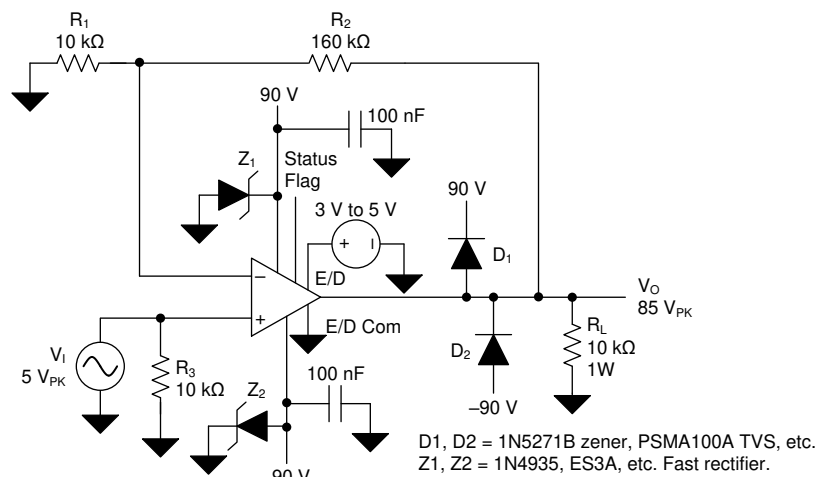

Figure 61. OPA462, High-Voltage Noninverting Amplifier, $A_v = 17$ V/V
The OPA462 high-voltage op amp can be used in commonly applied op amp circuits, but with the added capability of allowing for the use of much higher supply voltages. A very common application of an op amp is that of a noninverting amplifier with a gain of 1 V/V or higher. Figure 61 shows the OPA462 in a noninverting configuration.
Figure 61 shows a noninverting circuit with a moderately high closed-loop gain (A_V) of 17 V/V (24.6 dB). In this example, a $5\text{-}V_{PK}$ ac signal is amplified to $85\text{-}V_{PK}$ across a $10\text{-}k\Omega$ load resistor connected to the output. The peak current for this application is 8.5 mA, and is well within the OPA462 output current capability. Higher output current, typically up to 30 mA, may be attained at the expense of the output swing to the supply rails. A $\pm 90\text{-}V_{DC}$ power supply is required for this configuration.
A potentially destructive mechanism is the back EMF transient that can be generated when driving an inductive load. D_1 , D_2 , Z_1 and Z_2 in Figure 61 have been added to the basic OPA462 amplifier circuit to provide protection in the event of back EMF. If the voltage at the OPA462 output attempts to momentarily rise above V_+ , D_1 becomes forward-biased and clamps the voltage between the output and V_+ pins. This clamp must be sufficient to protect the OPA462 output transistor. If the event causes the V_+ voltage to increase the power supply bypass capacitor, Z_1 , or both, a Zener diode or a transient voltage suppressor (TVS) can provide a path for the transient current to ground. D_2 and Z_2 provide the same protection in the negative supply circuit.
The OPA462 noninverting amplifier circuit with a closed-loop gain of 17 V/V has a small-signal, -3-dB bandwidth of nearly 800 kHz. However, the large-signal bandwidth is likely of greater importance in a high-output-voltage application. For that mode of operation, the slew rate of the op amp and the peak output swing voltage must be considered in order to determine the maximum large-signal bandwidth. The slew rate (SR) of the OPA462 is typically $6.5\text{ V}/\mu\text{s}$, or $6.5 \times 10^6\text{ V/s}$. Using the $85\text{-}V_{PK}$ output voltage available from the circuit in Figure 61, the maximum large-signal bandwidth is calculated from the slew rate formula. Equation 1, Equation 2 and Equation 3 show the calculation process.